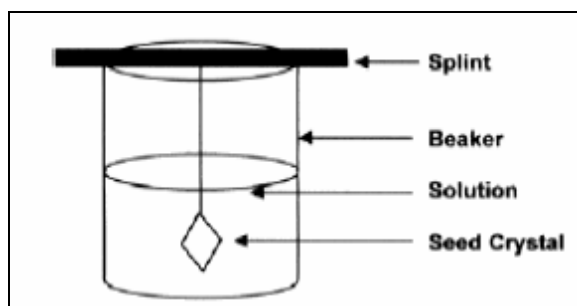

Figure 1: Schematic of seed crystal assembly
7. When the chemical/ water mixture have been heated to 50°C (step 3), take the beaker off of the heat and let the solution cool on your lab table until it reaches 40 degrees Celsius. Only then, put your seed crystal into the beaker as shown in Figure 1.